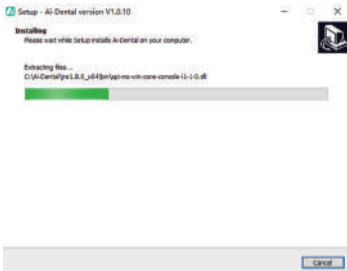

Figure 9
3.1.8 After the “Install” button is clicked, the program starts to install. The user just waits for the installation to complete, as shown in Figure 9: